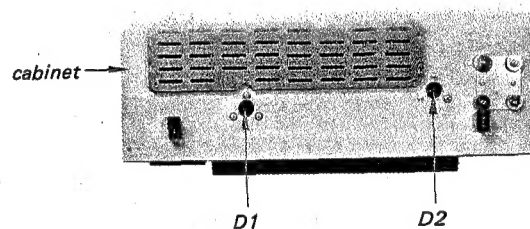

Fig. 2-5.
3. Remove the two screws labeled D1 ~ D2 in Fig. 2-5.